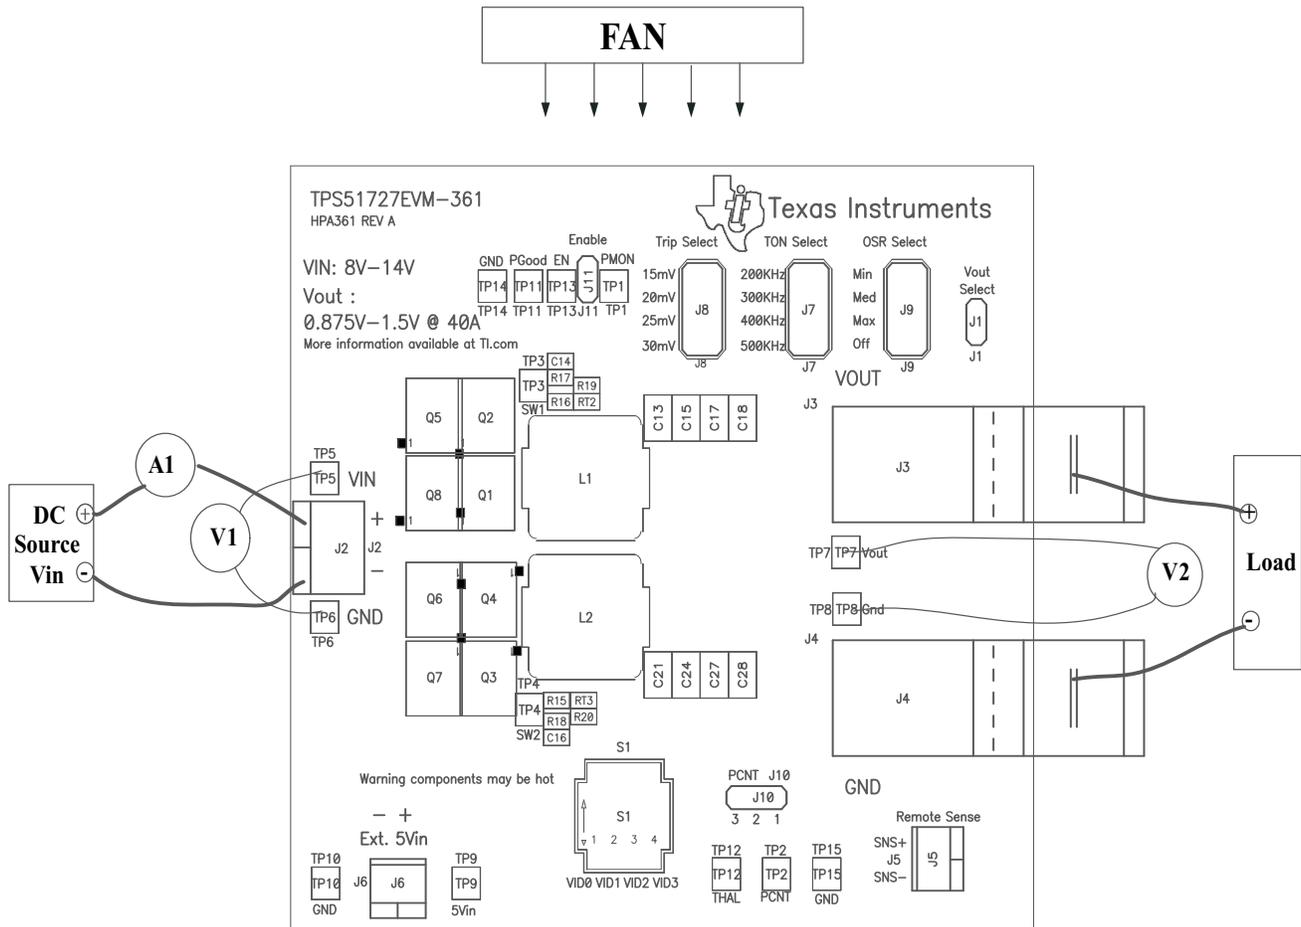

Figure 4. TPS51727EVM Recommended Test Setup
**Voltage Source:** The input voltage source  $V_{in}$  must be a 0-V to 14-V variable dc source capable of supplying 20 Adc. Connect  $V_{in}$  to J2 as shown in Figure 4.
**Multimeters:** A 0-V to 14-V voltmeter must be used to measure  $V_{in}$  at TP5 ( $V_{in}$ ) and TP6 (GND). A 0-V to 5-V voltmeter must be used for  $V_{out}$  measurement at TP7 ( $V_{out}$ ) and TP8 (GND). A 0-A to 20-A current meter (A1) as shown in Figure 4 is used for input current measurements.
Figure 4 is the recommended test setup to evaluate the TPS51727EVM. Working at an ESD workstation, ensure that any wrist straps, bootstraps, or mats are connected, referencing the user to earth ground before power is applied to the EVM.
1. Prior to connecting the dc input source  $V_{in}$ , it is advisable to limit the source current from  $V_{in}$  to 15 A maximum. Ensure that  $V_{in}$  is initially set to 0 V and connected as shown in Figure 4.
Place a fan as shown in Figure 4 and turn it on, ensuring that air is flowing across the EVM.